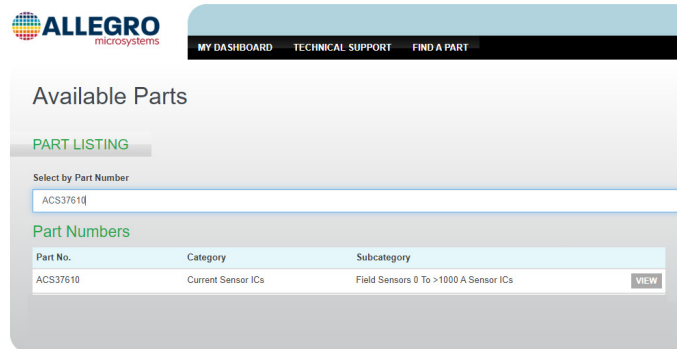

Figure 5: Select View Button Opens Selected Search Result
6. Click the view button located next to the ACS37610 search result, as shown outlined in Figure 5.